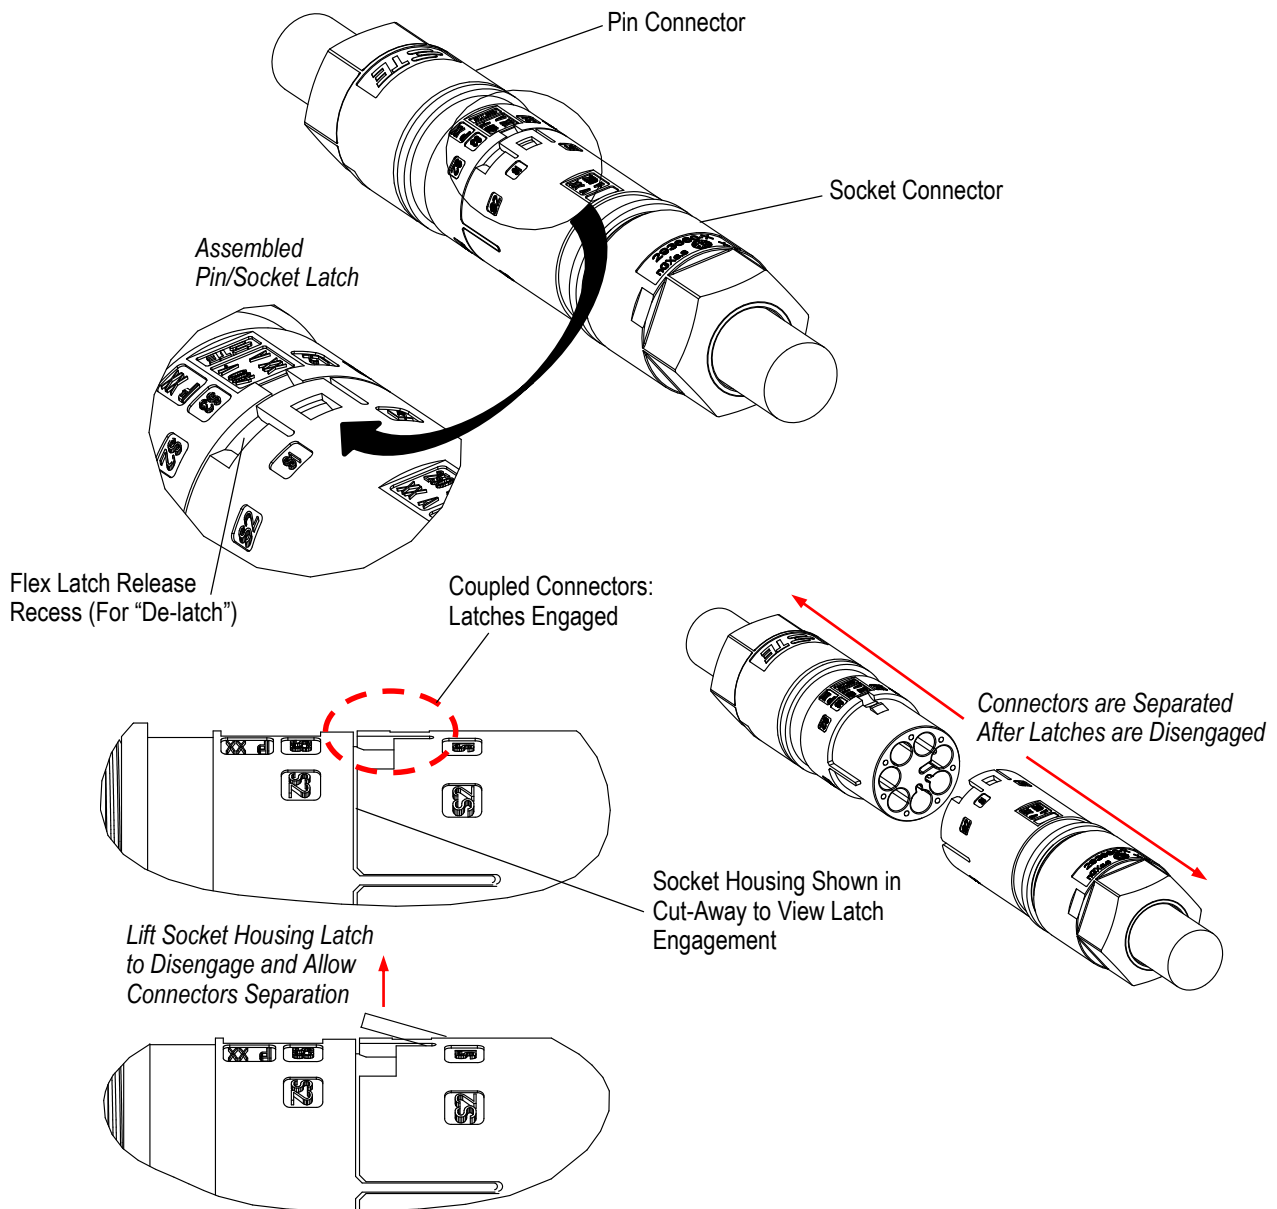

Figure 24
The NECTOR 5/6/7-circuit socket housing has recesses adjacent to the flex latches to provide access to the latches for de-coupling. The flex latches must be raised to disengage the protruding latch on pin housing and allow the connectors to separate. This is shown in Figure 24.
1. Locate release recesses adjacent to flex latches on socket housing shell, as shown in Figure 24.